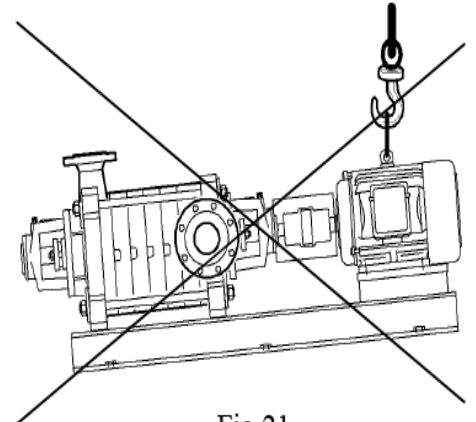

Fig.21
**Never lift pump units using the motor lifting eye. (Fig. 21)**